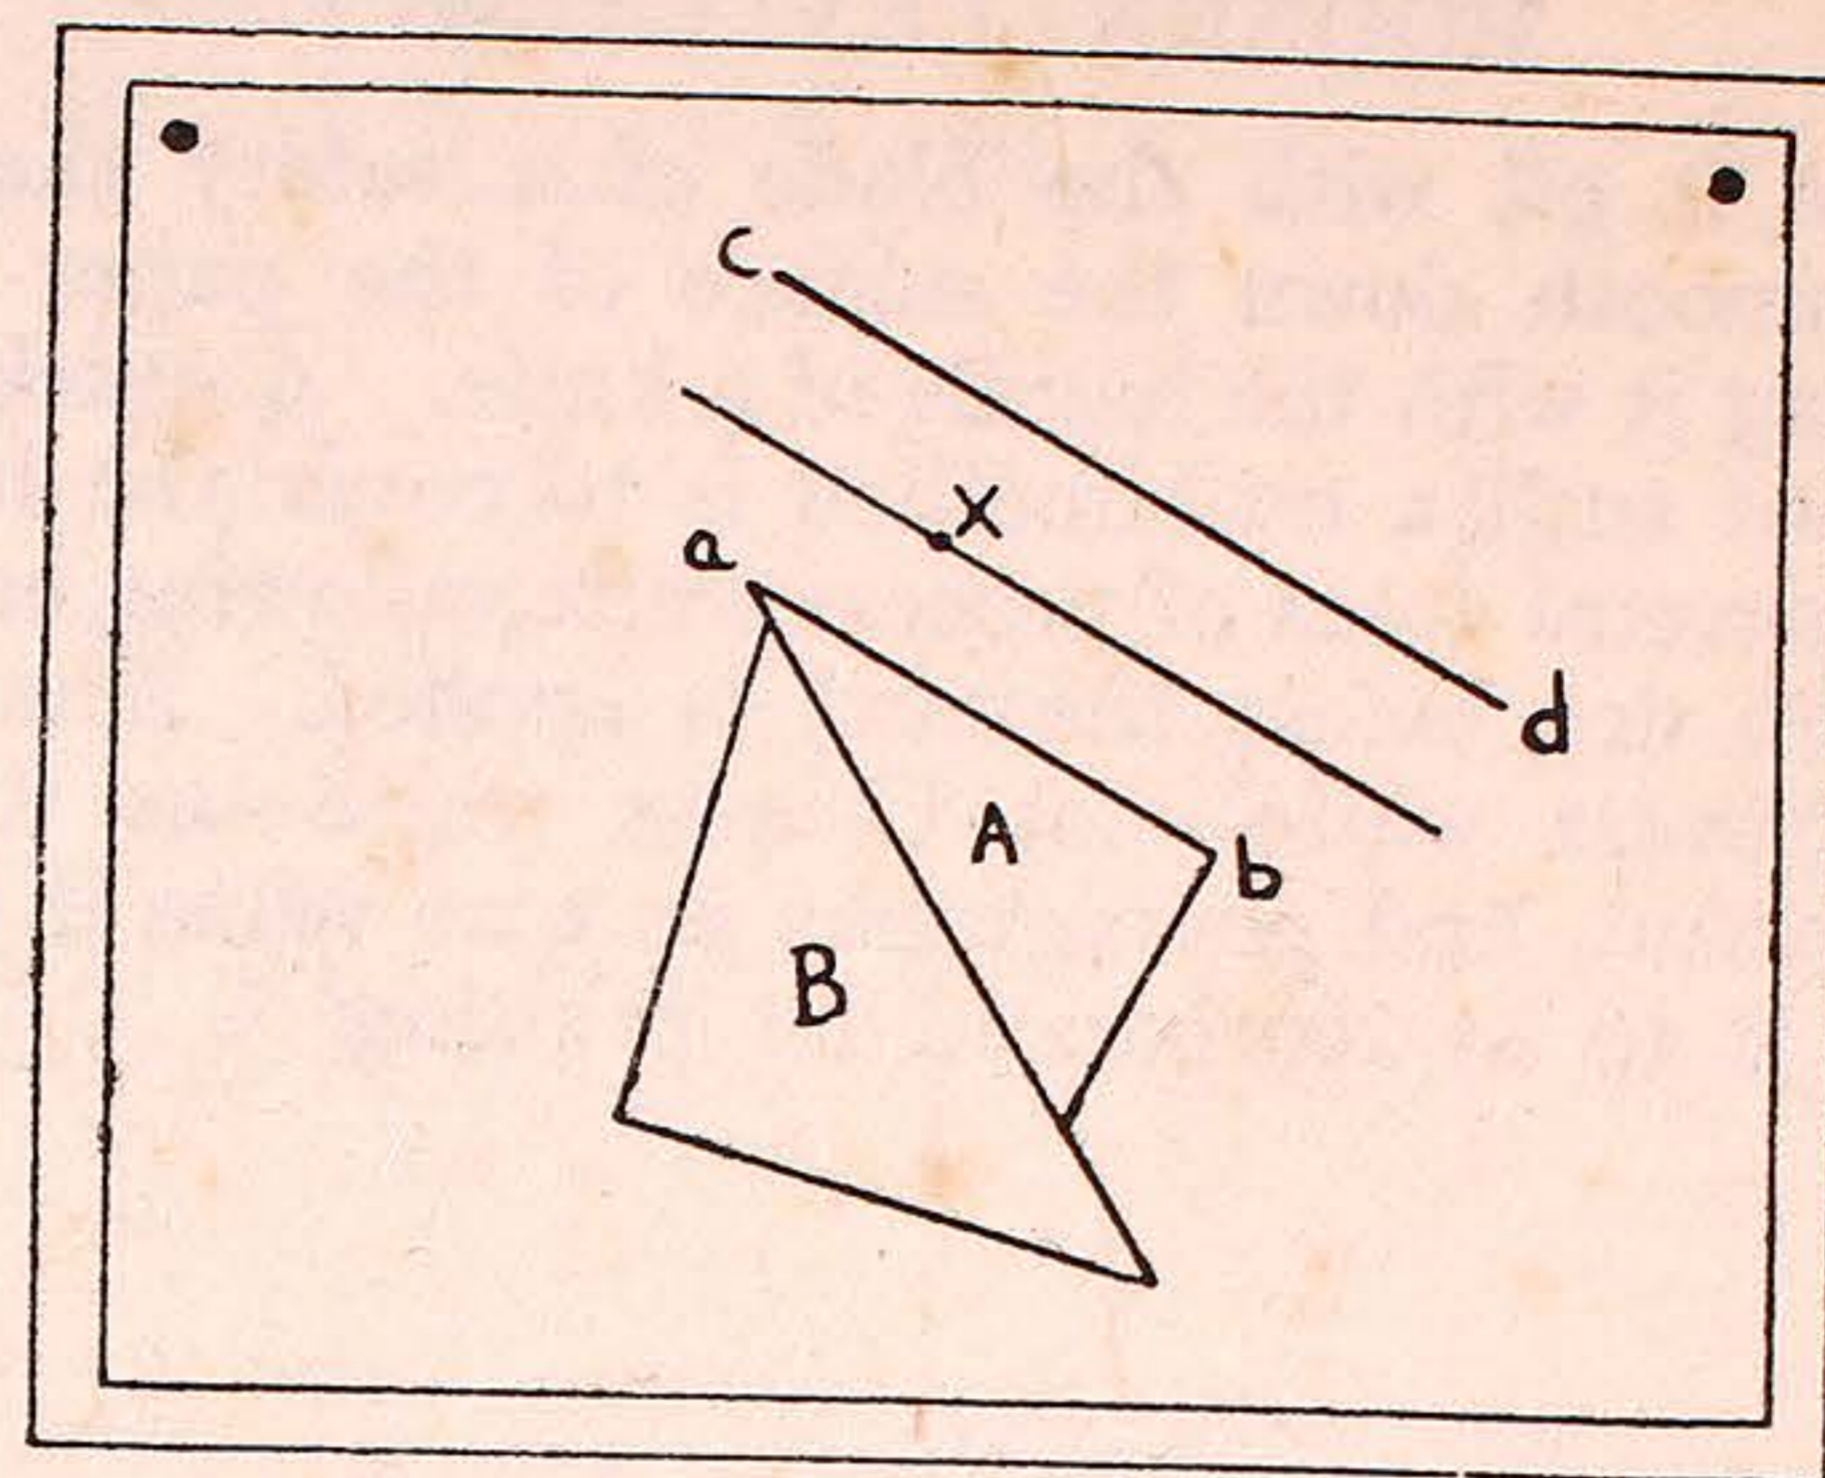

FIG. 1
**How to Draw Parallel Lines.**—Parallel lines, which are neither horizontal nor vertical, may be drawn as follows: Suppose you wish to draw a line through *X* parallel to *CD* (see fig. 1, Plate I). Place one edge, *ab*, of the set-square *A* along *cd*, and place the other set-square *B* against one of the remaining edges of *A*, holding it fast with the left hand; then move the set-square *A* along the edge of *B*. The edge *ab* will be parallel to the line *cd*. When *ab* reaches *X*, hold both set-squares stationary with the left hand, and draw the required line through the point, by passing the pencil along *ab*. The pencil should be a 2H.,
HEN FIG. 1